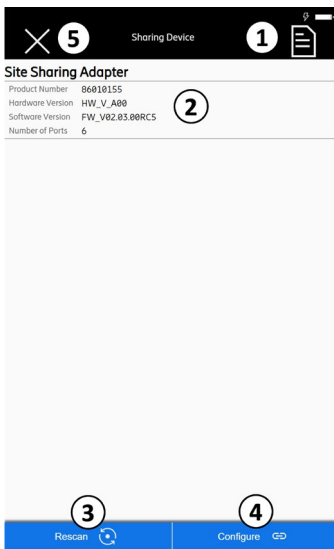

Fig. 102: Sharing: Site sharing adapter information
1. Tap ① in Fig. 102.
1. Tap ④ in Fig. 102 to open the site sharing adapter settings.